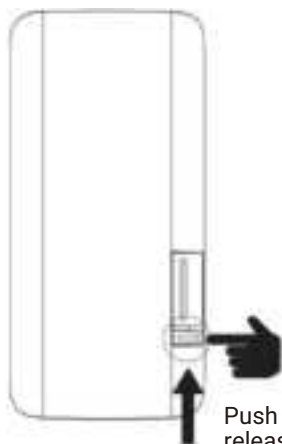
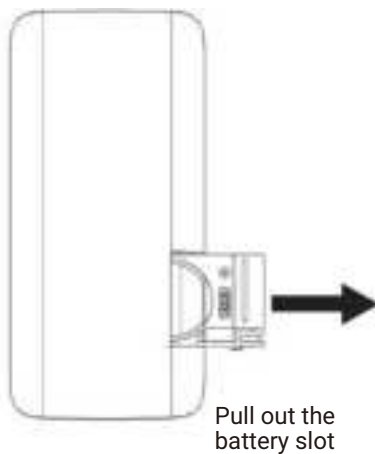

Fig.1
Fig.2
2.If the remote control needs to replace the battery, push the lock and stop as shown in Figure 1, and then open the battery slot as shown in Figure 2 to replace the battery. CR2025 battery is recommended.